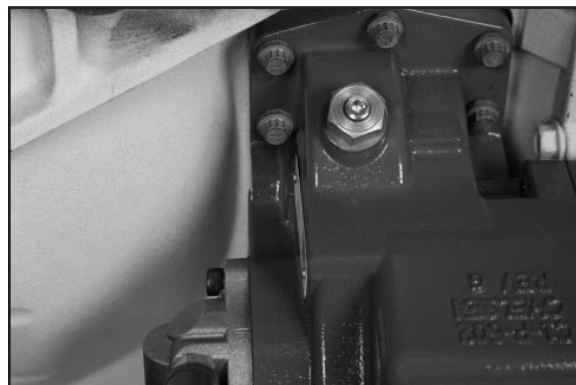

Figure 22
7. Install the remaining cap screws. Torque all to 40-50 lb-ft [54-68 N-m] (**Fig. 22**).